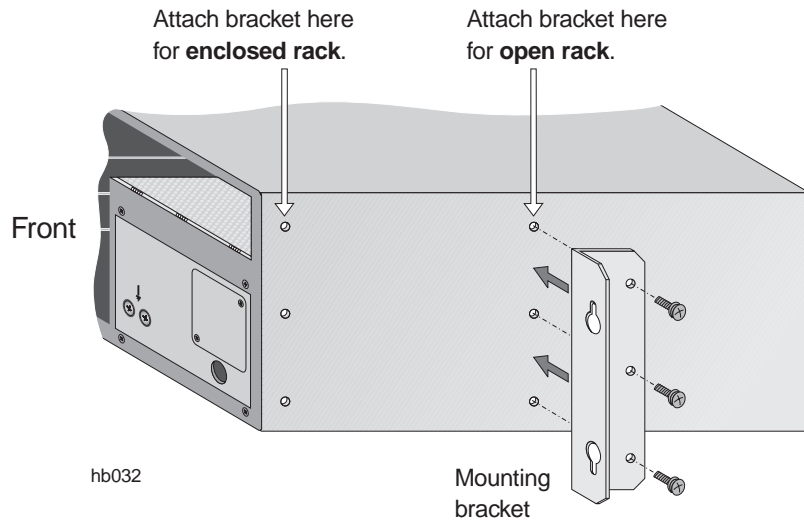

Figure 6-6 Attaching rack mounting brackets to the IDU chassis
1. Attach the rack mounting brackets as shown in figure 6-6. Be sure to use the correct sets of holes (front or midpoint) for each bracket, as indicated in figure 6-6.